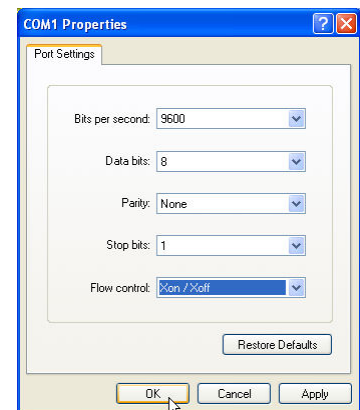

FIGURE 15
Refer to screen figures 15 through 21:
- 2 The *Connection Description* window shown in Figure 15 appears. Enter a name and select an icon for your unit and click **OK**. A sample name appears in Figure 15. When all setup has been completed, this will be the HyperTerminal file name that can be accessed without having to re-initialize the setting.